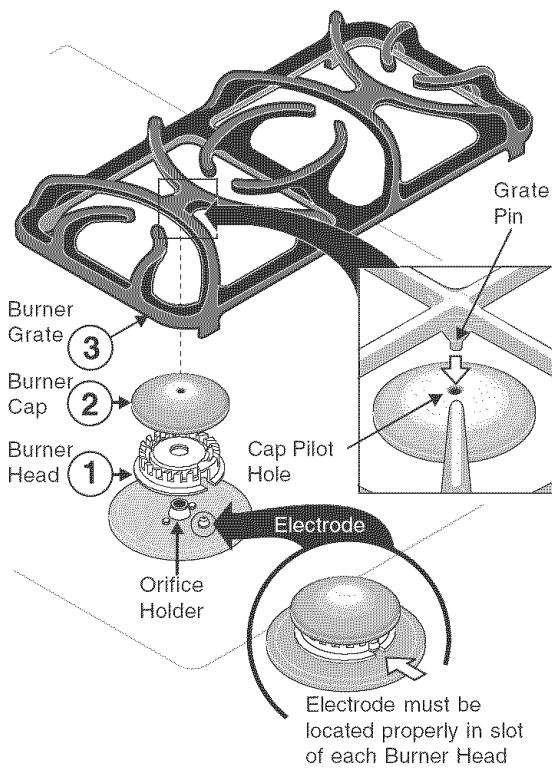

Figure 2
1. Place all 4 Burner Heads in the correct locations (See Figure 1). Make sure that the correct Burner Head is placed with the corresponding Orifice Holder and that the Electrode is located properly in the slot of each Burner Head (See Figure 2). Proper Burner Head placement insures that each Burner will have the correct spark required for surface gas ignition.